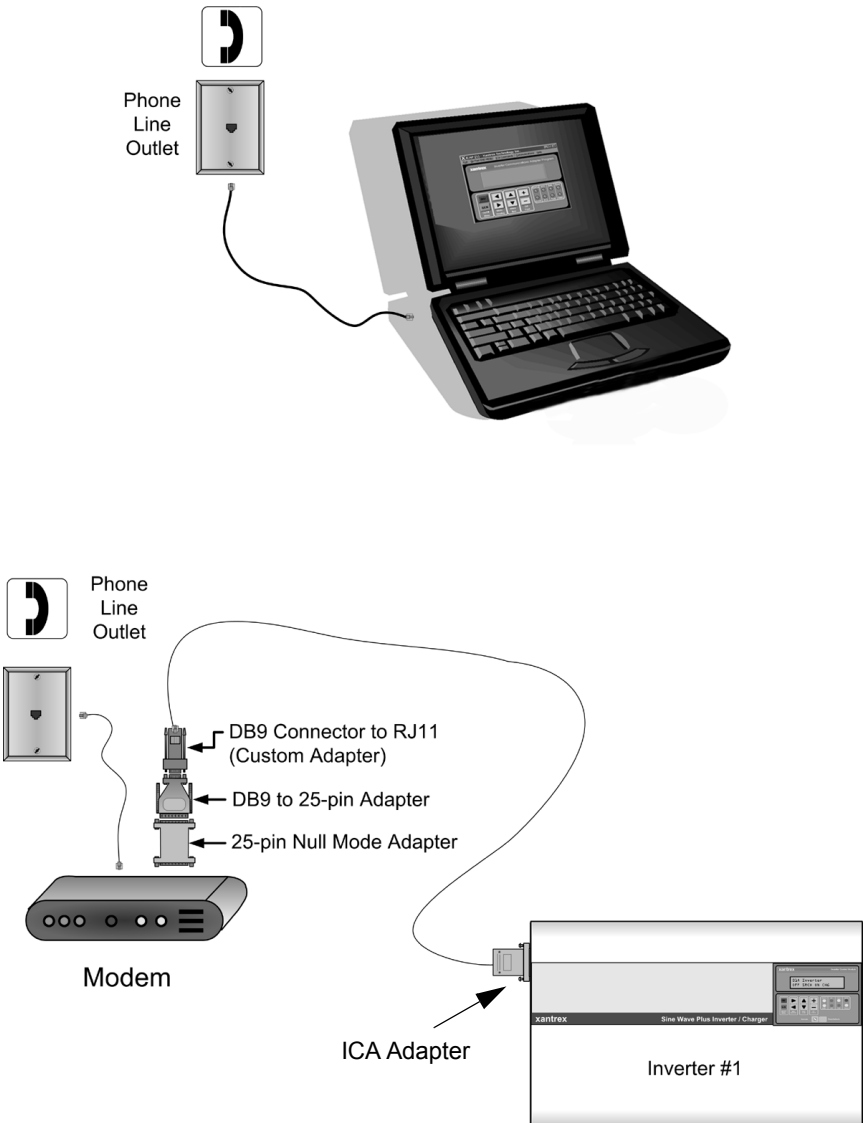

Figure 1-3 Connecting the ICA to a Computer using a Modem
1. Install the cables as illustrated in Figure 1-3.